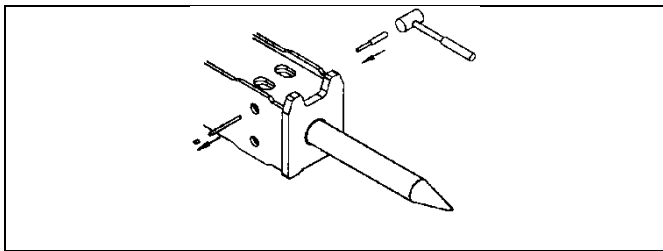

Fig. 10-3 Remove snap ring, rubber plugs and covers, push out smaller pins
6. Push the small retainers to the side until they clear the larger retainers. [Fig. 10-3].